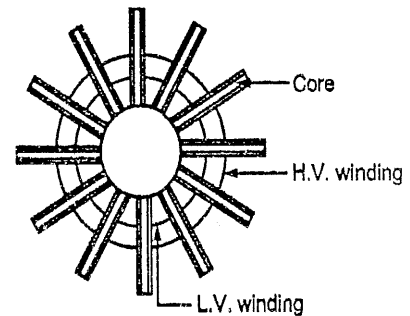

FIG. 3.13 : BERRY TYPE TRANSFORMER
(3) Berry Type Transformer :
- Fig. 3.13 shows a simple Berry-type transformer.
- The low voltage winding placed inside and high voltage winding placed outside as shown in Fig. 3.13.